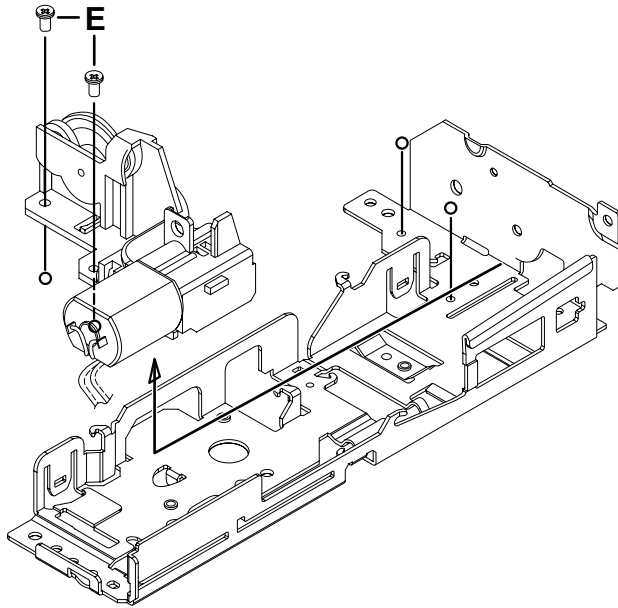

Fig.12
- (2) Remove the 2 screws **E** attaching the loading motor assembly, and then remove the loading motor assembly in the direction of the arrow. (See Fig.12)